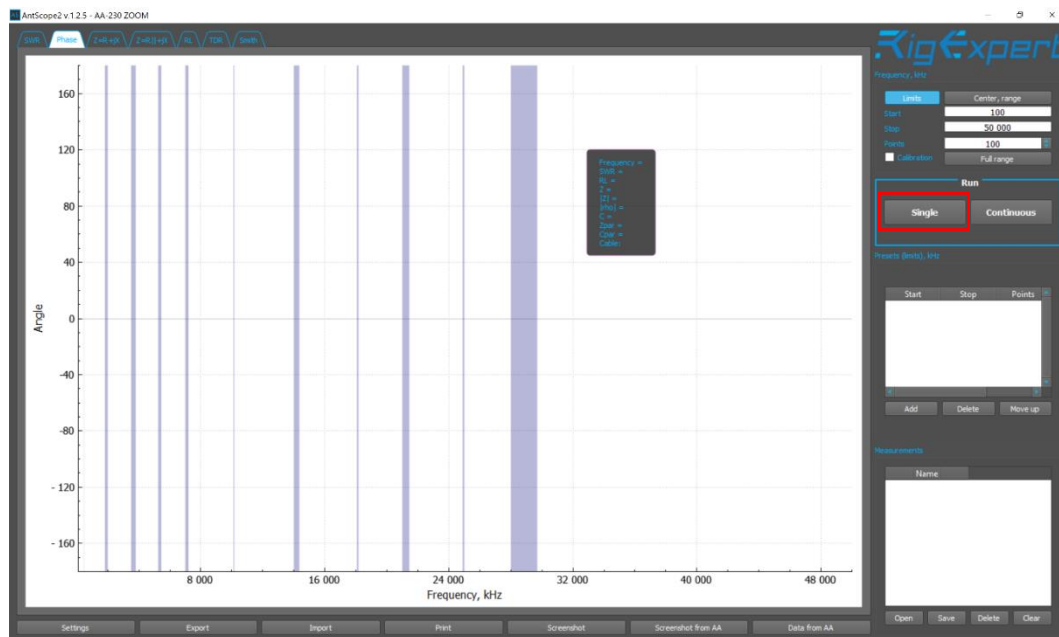

Figure 11-67: AntScope Run > Single
2. In the AntScope main screen Run section, click **Single** as shown in Figure 11-67. Wait for the data to be collected.